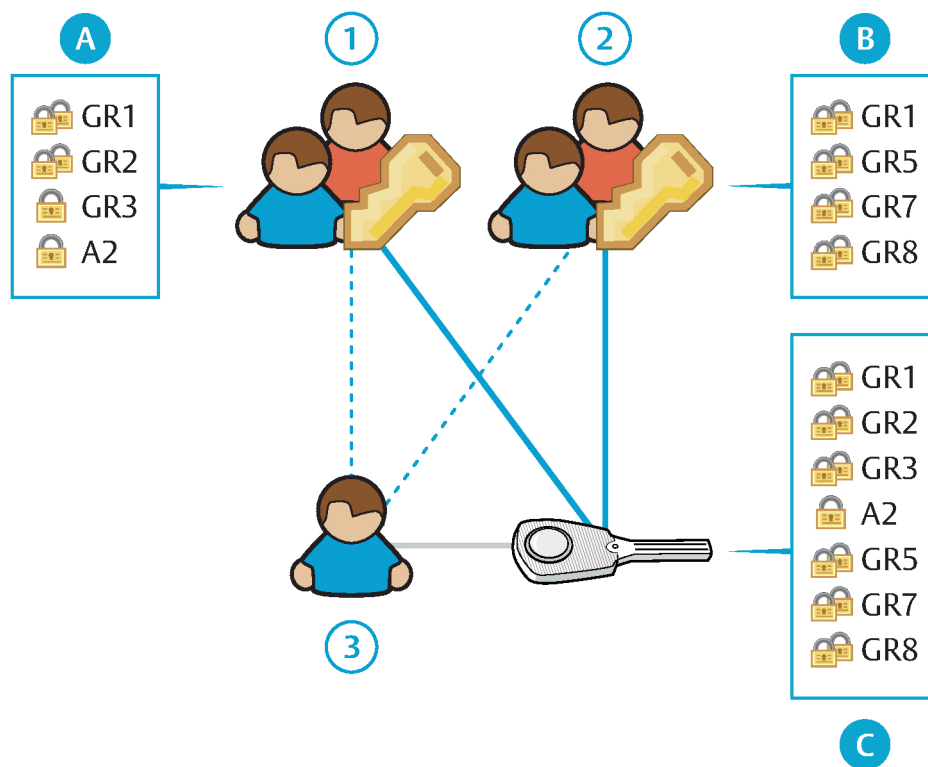

Figure 8. Access profiles
Figure 8 “*Access profiles*”, page 116 shows an example with two access profiles (1, 2), each with access to a number of cylinders or cylinder groups, or both (A, B). The access profiles can be associated with either a person (3) or a key. When associated with a person, the key handed out to that person is automatically given the access of the associated access profiles (C).